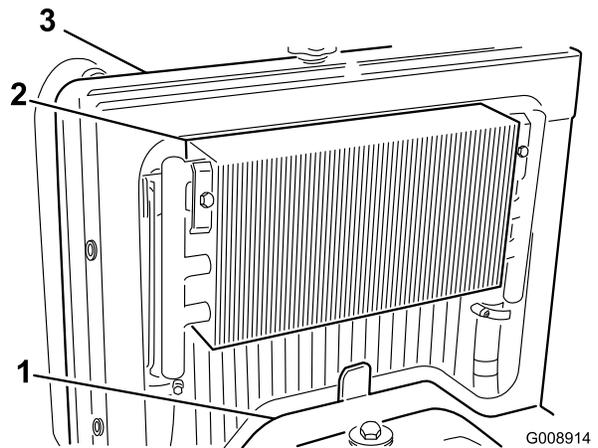

Figure 50
2. Remove the access panel (Figure 50).